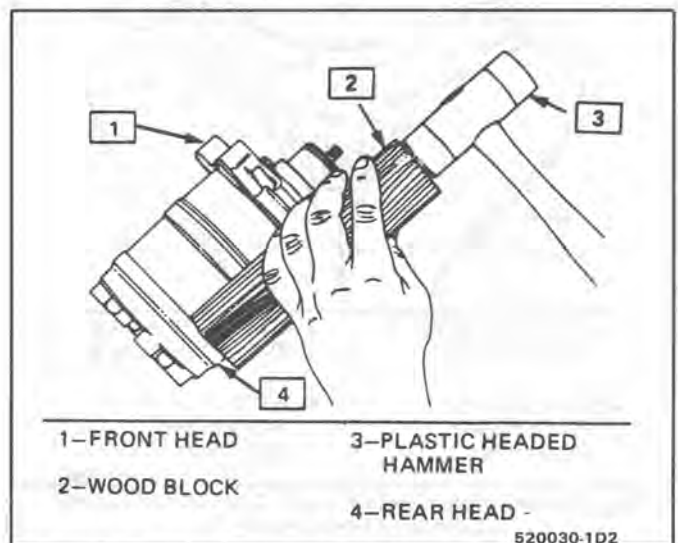

Fig. 29 Tapping Front or Rear Head Free of Cylinder
4. Remove the six (6) compressor through bolts and gaskets. Discard the gaskets.
5. Using a wood block and plastic headed hammer, tap around the edge of the rear head to disengage head from the compressor cylinder (Fig. 29). Separate the rear head, head gasket, rear valve plate, suction reed plate and cylinder to rear head O-ring. Discard the head gasket and the O-ring.